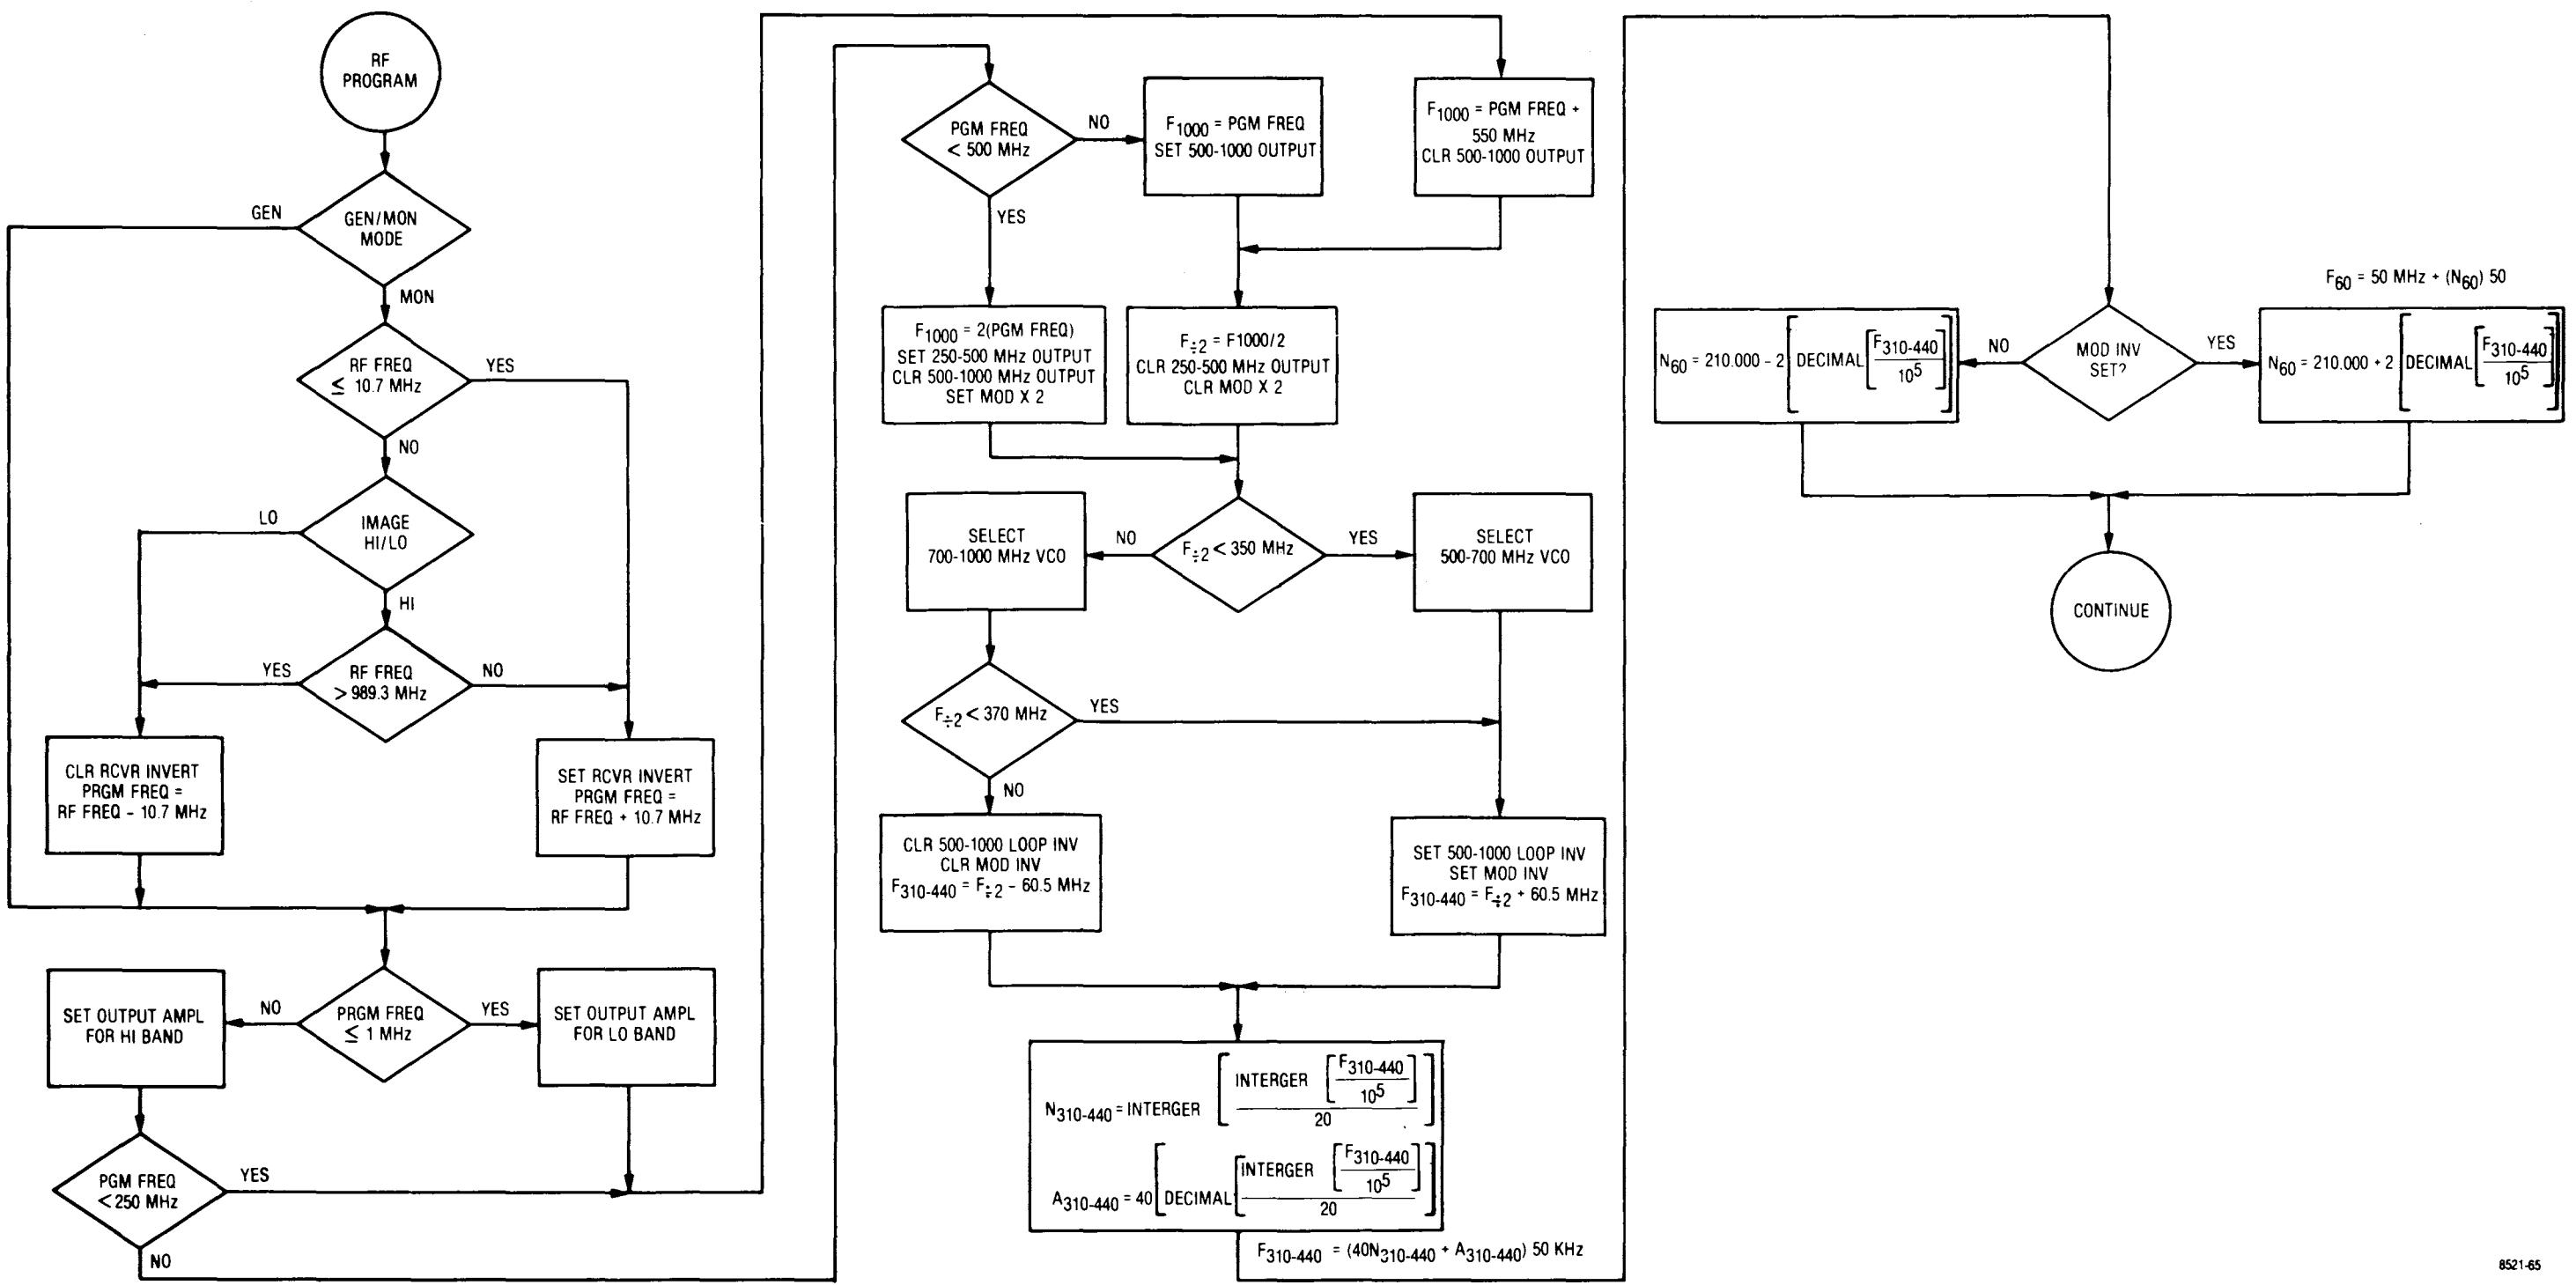

Figure 11-2. Frequency Programming
**11-4.** A basic flow diagram for programming the RF Synthesizer is shown in figure 11-2. This diagram includes generate and monitor considerations, wideband amplifier control, and modulation control.